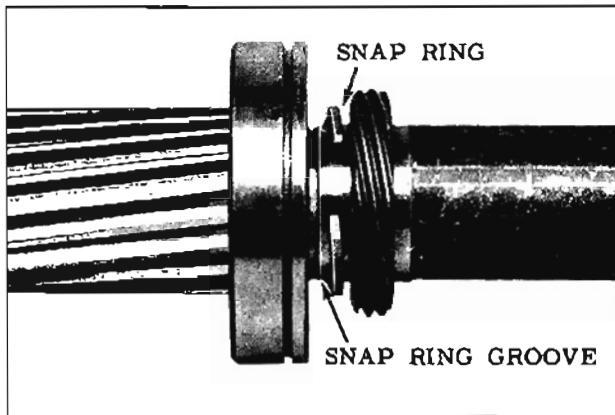

Fig. 7-23 Snap Ring Position Prior to Disassembly of Main Shaft
2. Remove the retaining ring from the groove and slide along the shaft toward the speedometer drive gear. (Fig. 7-23)